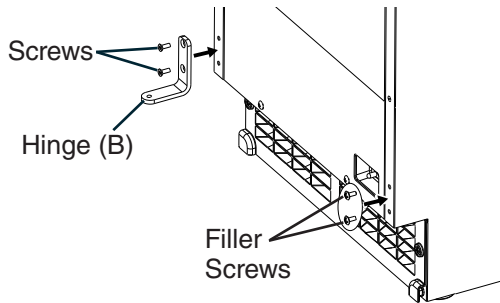

Fig. 6
d) Remove hinge (B) from the right side of the appliance and the 2 filler screws from the left side. Attach the 2 filler screws to the right side and attach hinge (B) to the left side. See Fig. 6.